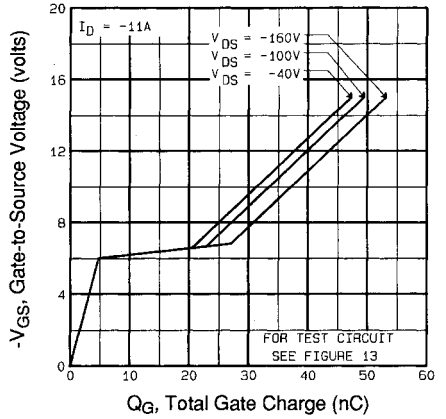

Fig 6. Typical Gate Charge Vs. Gate-to-Source Voltage
| Q_{gd} | Gate-to-Drain ("Miller") Charge | — | — | 27 | | $V_{GS}=-10\text{V}$ See Fig. 6 and 13 ④ |